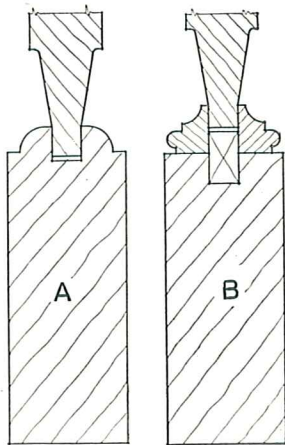

Fig. 1. (A) Curtis ovolo molding is cut on the stiles and rails themselves. (B) Curtis flush molding is a separate strip "planted in" or nailed.
Figure 1 illustrates the two types of molding used on Curtis doors. The style of molding that is used around panels in any door determines in a large degree the character and beauty of its design. These moldings are of two general kinds: solid and applied. The solid molding shown in Figure 1(A) is known as Curtis *ovolo*. It is cut on the stiles and rails of the door. The *flush* molding shown in Figure 1(B) is a separate molded strip that is "planted in"; i. e., bradded or nailed to the spline in the stile or rail.
Fig. 3. A— $\frac{1}{8}$ " strip of veneer. B— $\frac{3}{4}$ " hardwood edging strip. C— $1\frac{1}{8}$ " white pine core blocks for $1\frac{3}{8}$ " doors; $1\frac{1}{2}$ " white pine core blocks for $1\frac{3}{4}$ " doors. The stiles and rails of the veneered door have cores of white pine blocks tongued-and-grooved and glued together (C in Fig. 2). Strips of hardwood $\frac{3}{4}$ " thick are then applied to the edges of the built-up core (B in Fig. 2). Finally strips of veneer $\frac{1}{8}$ " thick (A in Fig. 2) are glued with waterproof glue to the surfaces of the built-up cores. The stiles and rails are then ready to be molded if the door is to have Curtis ovolo molding, to be grooved to receive the panels, and to be bored to receive the dowels. The parts are then clamped together as in Fig. 1.